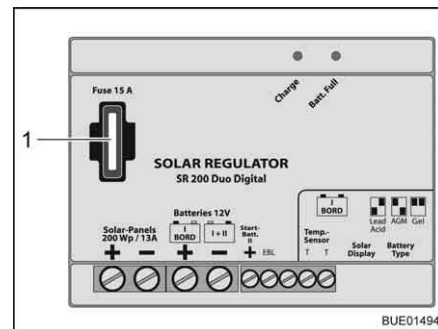

Fig. 147 Solar charge regulator fuse 200 W
- Replace flat fuse 15 A/blue (Fig. 147,1).